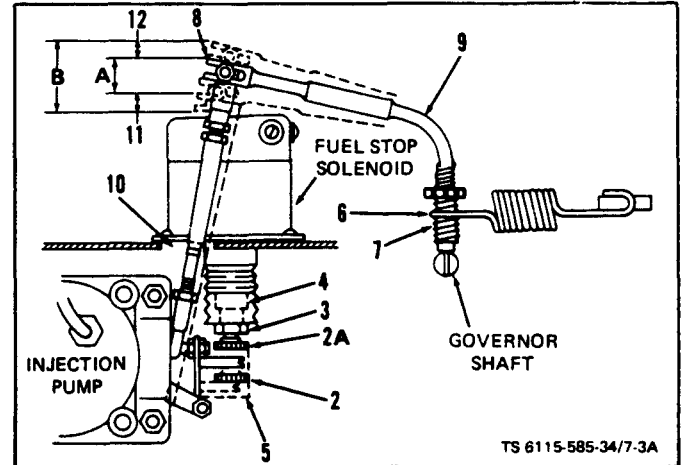

Figure 7-3.1. Governor Linkage Adjustment
f. Preliminary Linkage Adjustment (figure 7-3.1). The following adjustments shall be made before starting the engine if the linkage was replaced.
- (1) With link (1) compressed, adjust length between ball joints to 5-1/2 in.
- (2) Set solenoid bumper screw to shut off position, dotted line (2), by loosening locknut (3) on solenoid plunger (4). With plunger down, adjust bumper screw to push control unit post down, dotted line (5), to maximum shutoff position.
- (3) Hook governor spring (6) in the mid-range of sensitivity ratchet (7).
- (4) Manually move governor arm and linkage to check for interference.
- (5) Adjust position of upper ball joint in slot (8) on governor arm (9) so link (1) does not bind against fuel stop solenoid or hole (10). A slight contact of link to bottom of solenoid is permissible but only at shut down. The fuel control unit should move up to position (2A) when solenoid is energized with start switch.
h. Speed Droop Adjustment (figure 7-3.1 ). Droop between no load and rated load is adjusted by rotating ratchet (7). Clockwise rotation decreases droop; counterclockwise rotation increases droop. Start engine and with no load, adjust speed control for rated frequency. While observing the set fre-